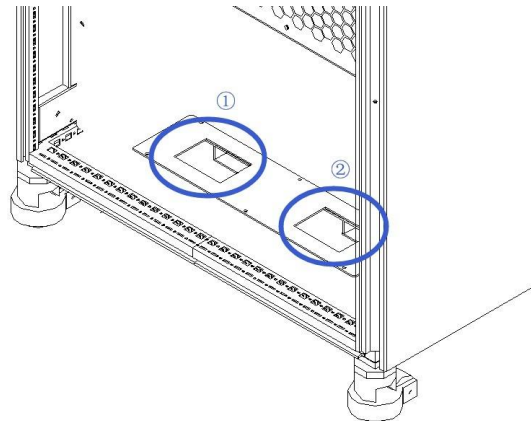

Figure 2-3 Entrance hole
Remove the bottom baffle (Figure 2-2), the user can connect the PE, N, C, B, A cables on the input side and N, C, B, A cables on the output side into the cabinet through the input side cable entrance hole① and the output side cable entrance hole②, which are at the bottom of the cabinet (Figure 2-3).